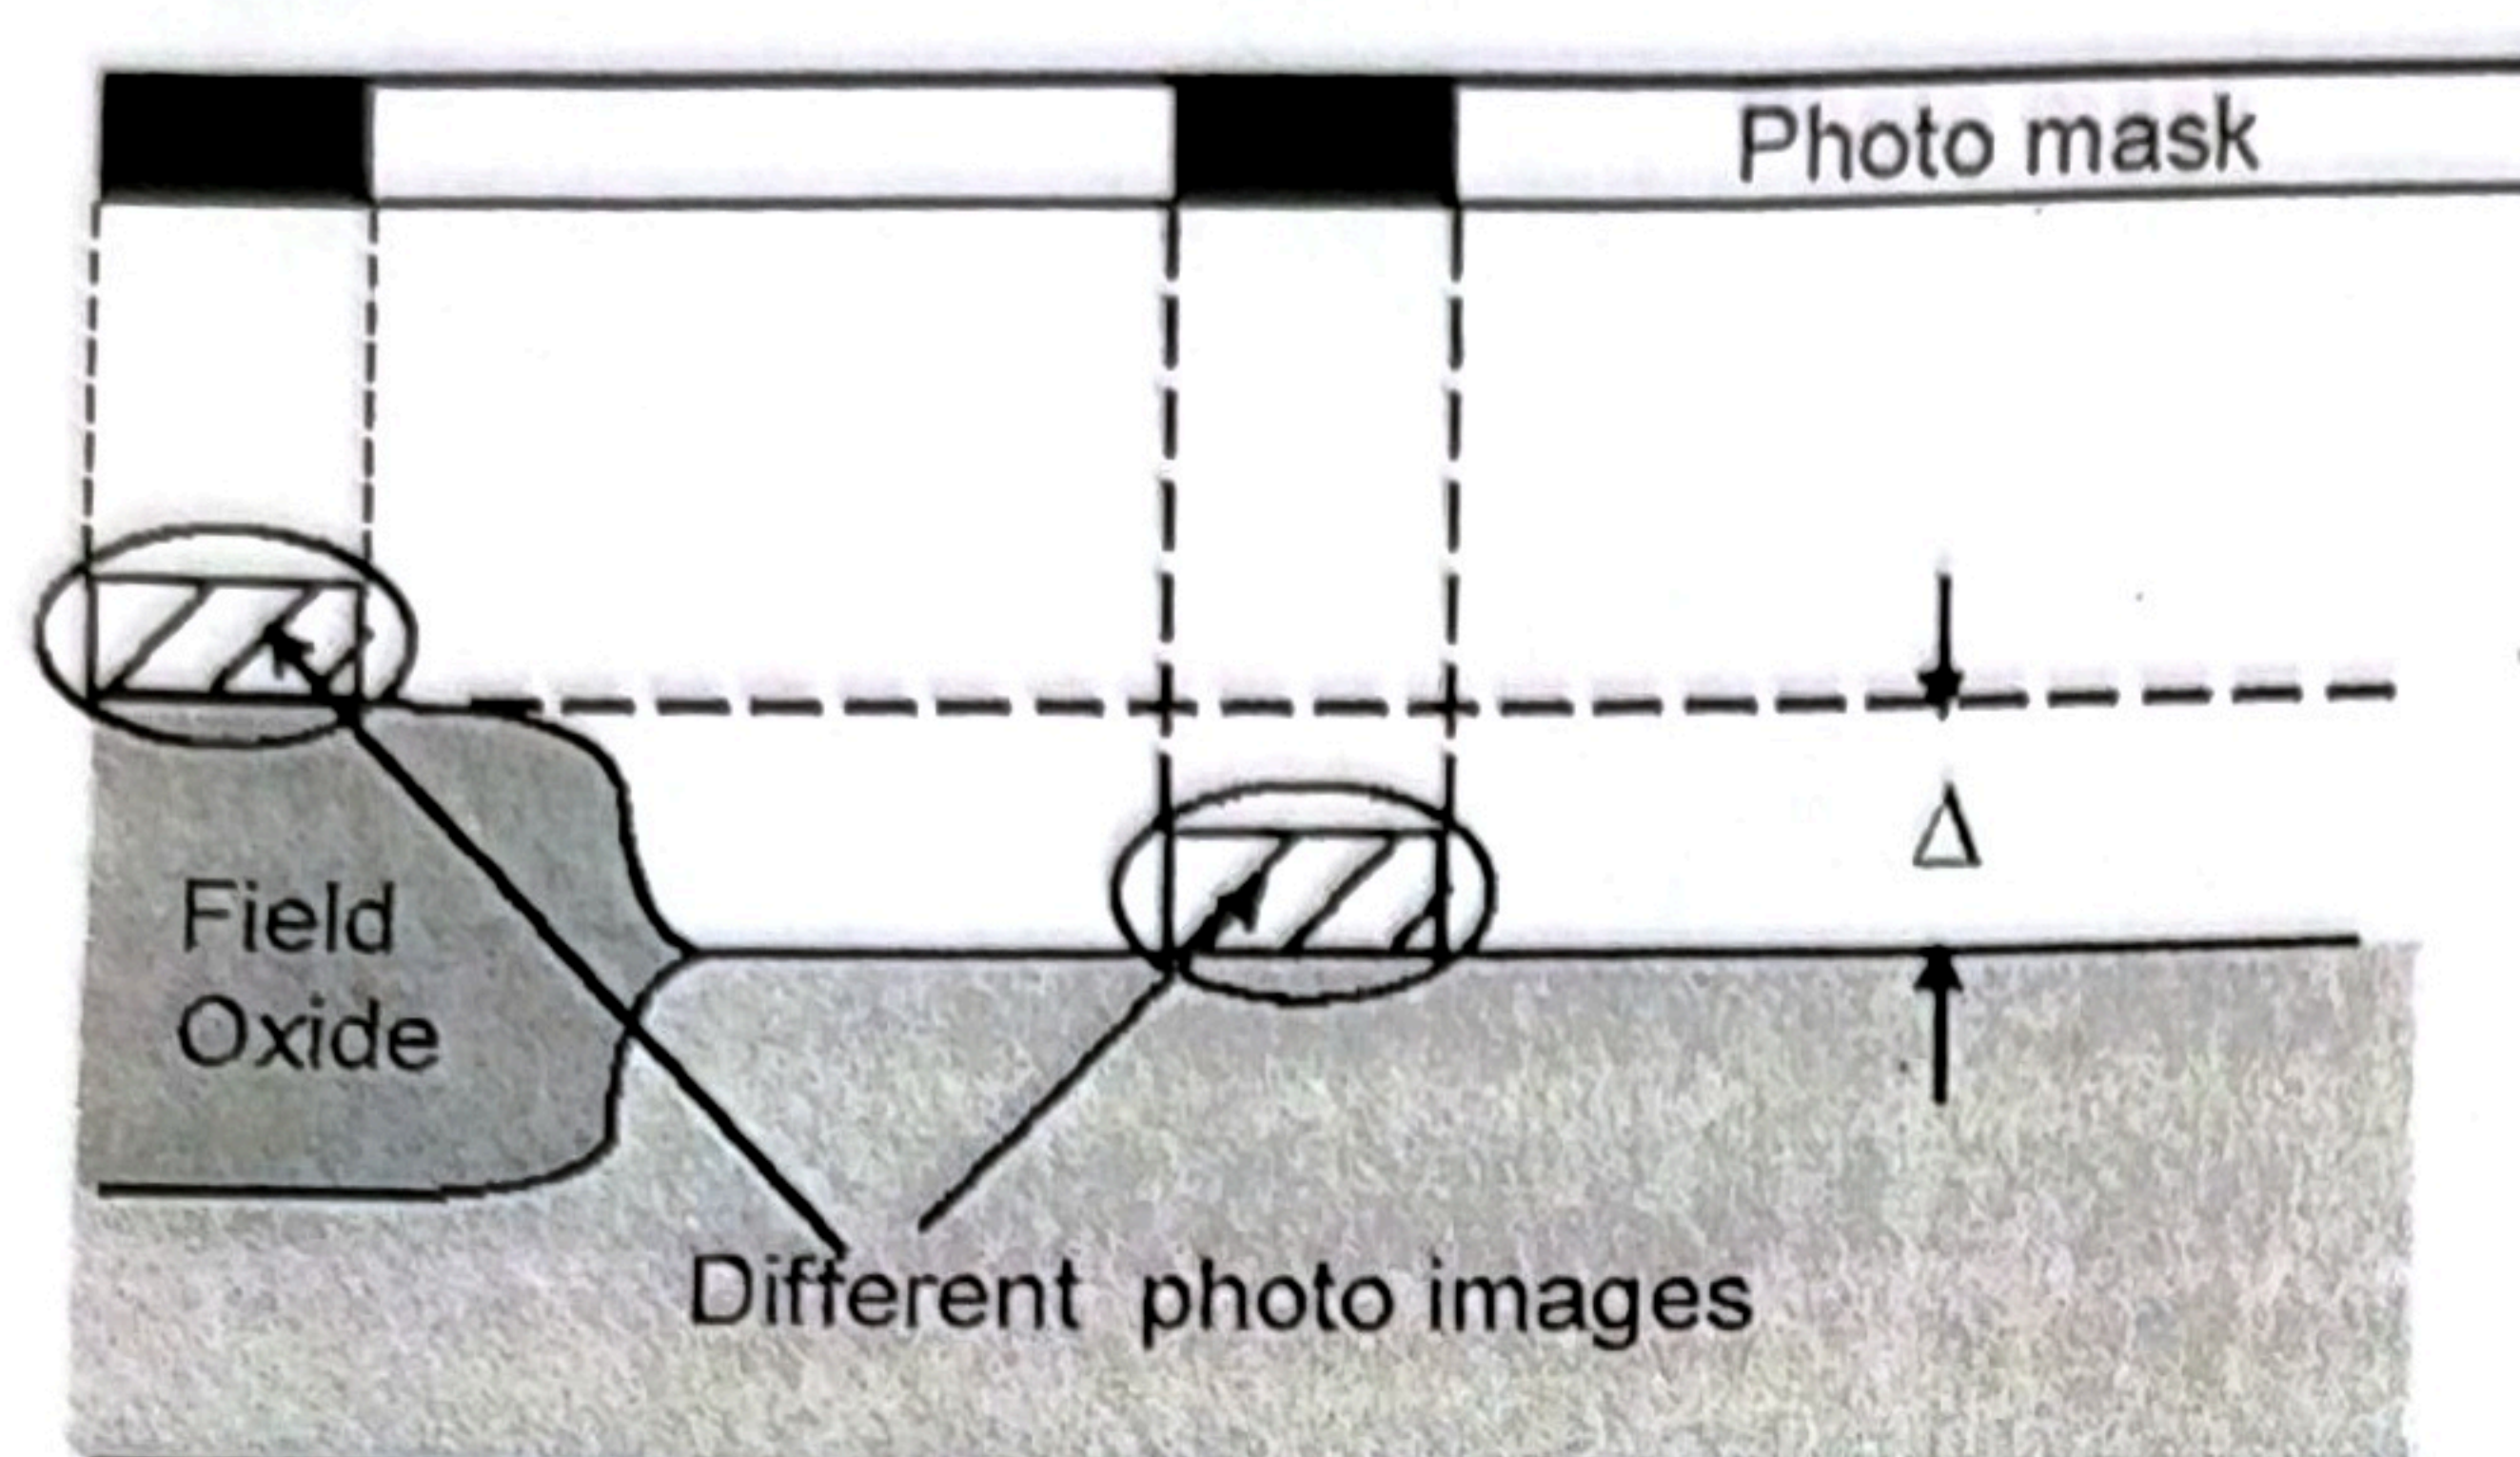

Fig.2
(1) How to improve the image resolution at the same time DOF does not decrease? Give some examples. 如何在提高图形分辨率的同时不减少焦深, 举例说明。(建议列出公式)
(2) The following picture (fig.2) show DOF Implications. In the figure, if DOF is smaller than Δ , what does it mean? How can Δ satisfy the requirements if